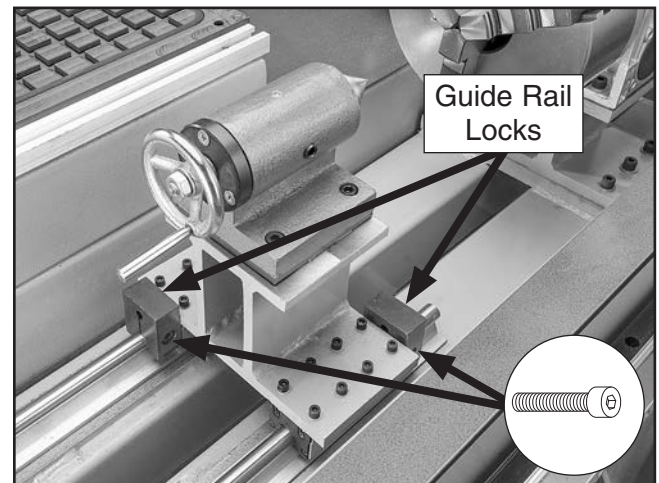

Figure 54. Tailstock guide rail locks location.
2. Loosen (1) cap screw on each guide rail lock to move tailstock along guide rails (see **Figure 54**). DO NOT remove cap screws!